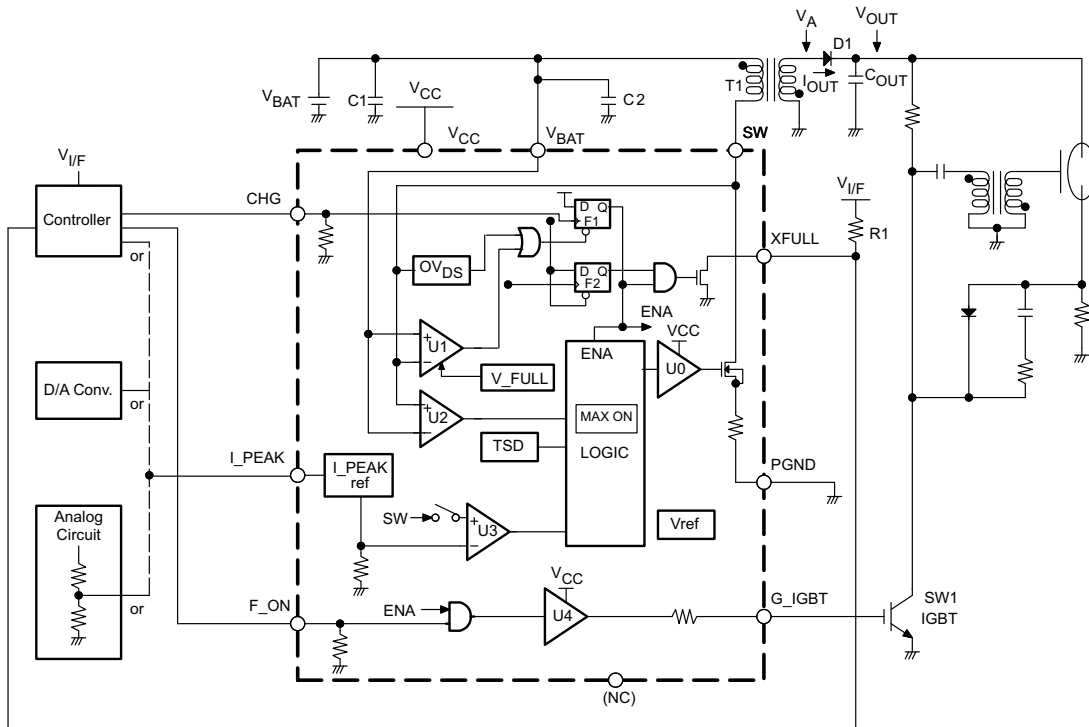
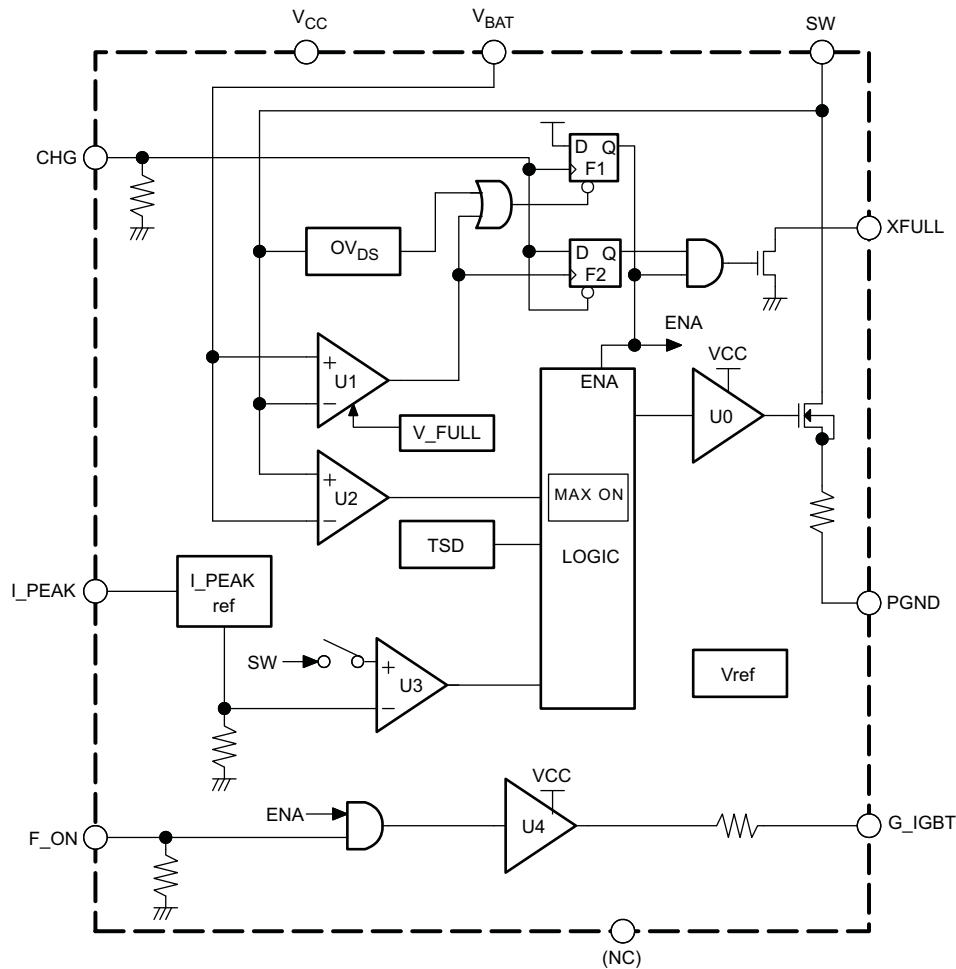
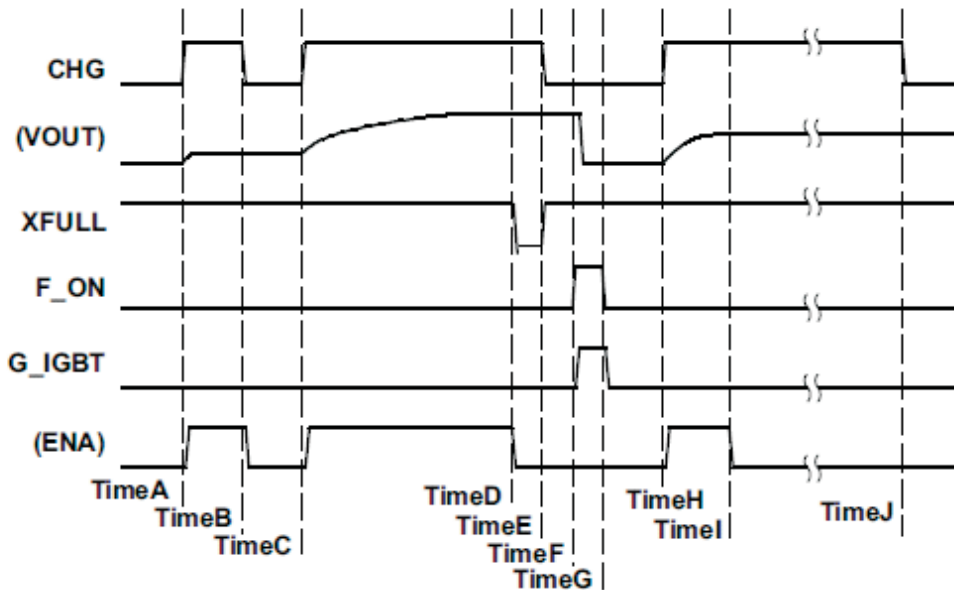
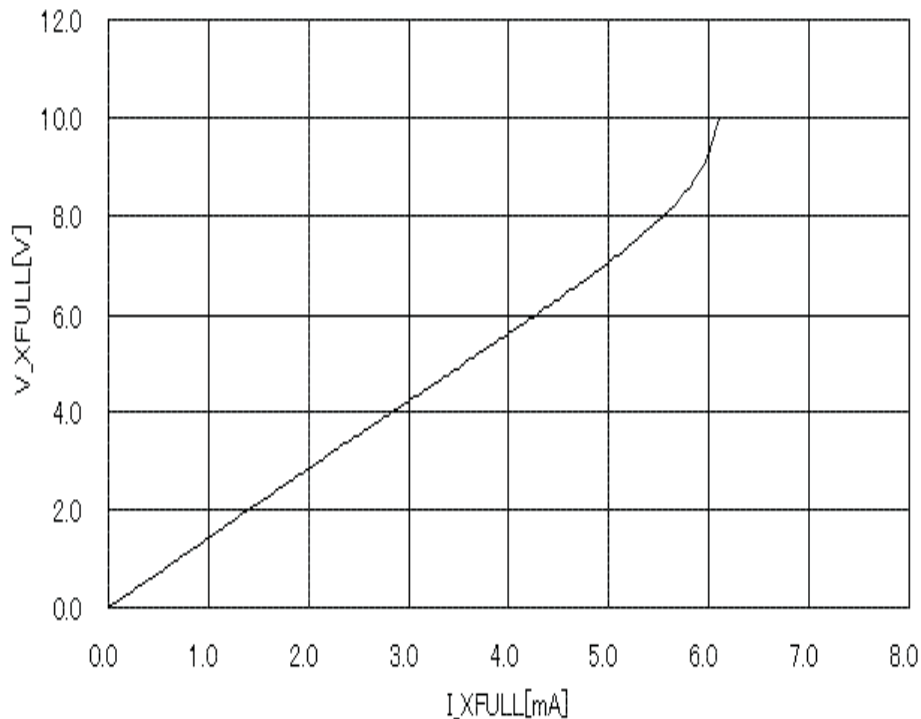

Figure 1. Typical Application Circuit
Figure 2. Block Diagram
Figure 4. Whole Operation Sequence Diagram
Figure 16. I_{XFULL} vs V_{FULL}
The TPS65560/TPS65561 photo flash chargers offer a complete solution for charging a photo flash capacitor from a battery input, and subsequently discharging the capacitor to a xenon flash tube. These devices have an integrated voltage reference, power switch, insulated gate bipolar transistor (IGBT) driver, and control logic blocks for capacitor charging and driving IGBT applications. Compared with discrete solutions, these devices reduce the component count, shrink the solution size, and ease designs for xenon tube applications. Additional advantages are fast charging times and high efficiency from an optimized PWM control algorithm. The typical application circuit is shown in Figure 1.
The TPS65560/TPS65561 have one internal enable latch, F1, that holds the state (ON/OFF status) of the device (see Figure 2). The only way to start charging is to input the rising edge into the CHG pin (see time A/C/H in Figure 4). Each time the rising edge is applied, the TPS65560/TPS65561 start charging.
1. Forcing a STOP by setting the CHG pin to a logic low (see time B in Figure 4).
- This manually stops the charging. Setting the CHG pin to low forces the internal enable signal (ENA) (see Figure 2) low and the internal FET switch turns off.
2. Automatic STOP by detecting the output voltage when V_{OUT} reaches the target value (see time D in Figure 4).
- This is the standard stop function. U1 (see Figure 2) compares $(V_{SW} - V_{BAT})$ to V_{FULL} , which is the target voltage on the primary side. (V_{SW} is the voltage at the SW pin and V_{BAT} is the battery voltage.) The TPS65560/TPS65561 automatically stop charging when $(V_{SW} - V_{BAT})$ exceeds V_{FULL} .
3. Protected stop by detecting an overvoltage (OV_{DS}) on the SW pin (see time I in Figure 4).
The TPS65560/TPS65561 application circuit is based on a flyback power-supply topology. When the internal FET switch turns on, current, which is programmable by the I_PEAK pin voltage, flows into the primary side of the transformer and, thus, stores energy in the primary winding. When the internal FET switch turns off, the stored energy is transferred to the secondary side of the transformer. At that moment, the current flows in the secondary side to the photo flash capacitor (C_{OUT} in Figure 1) via the diode, D1.
The TPS65560/TPS65561 use three comparators (U1, U2, and U3) (see Figure 1 and Figure 2) to determine the state of the internal FET switch. The descriptions for these comparators follow.
The voltage on the I_PEAK pin (V_{PEAK}) can be controlled in three ways (see Figure 1).
- Use an analog circuit. The function is the same as using a DAC. The voltage on I_PEAK can be set using an analog circuit as shown in Figure 1.
The XFULL output is configured as an open-drain MOSFET (see Figure 2). The MOSFET has a low current sink capability. The current sink capacity of XFULL is shown in Figure 16.